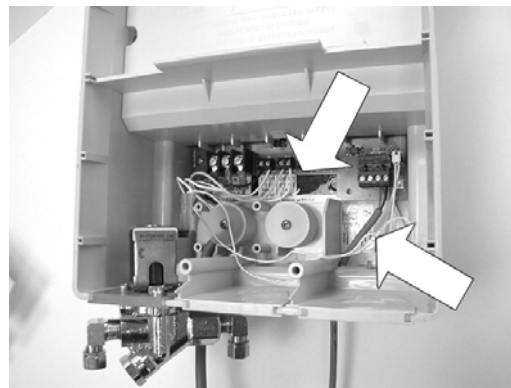

Figure 7
- 8.0 Reconnect the power and signal inputs to the screw terminals (as indicated by the wiring label) and any optional devices to the interconnect portion of the assembly (as indicated by that wiring label, Fig. 7).